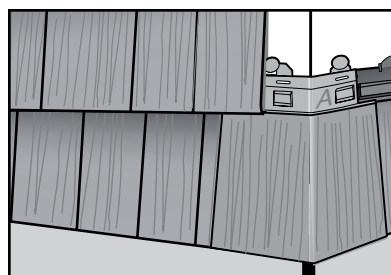

figure 11
2. Once the panel has been fastened, hook the corner "A" over the siding, making sure the corner piece is locked into the starter strip (*figure 11*).